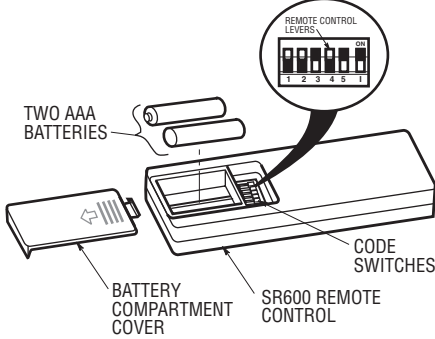

Figure 1
1. Remove the battery cover by pressing firmly below the arrow and sliding the cover off the control (Figure 1).